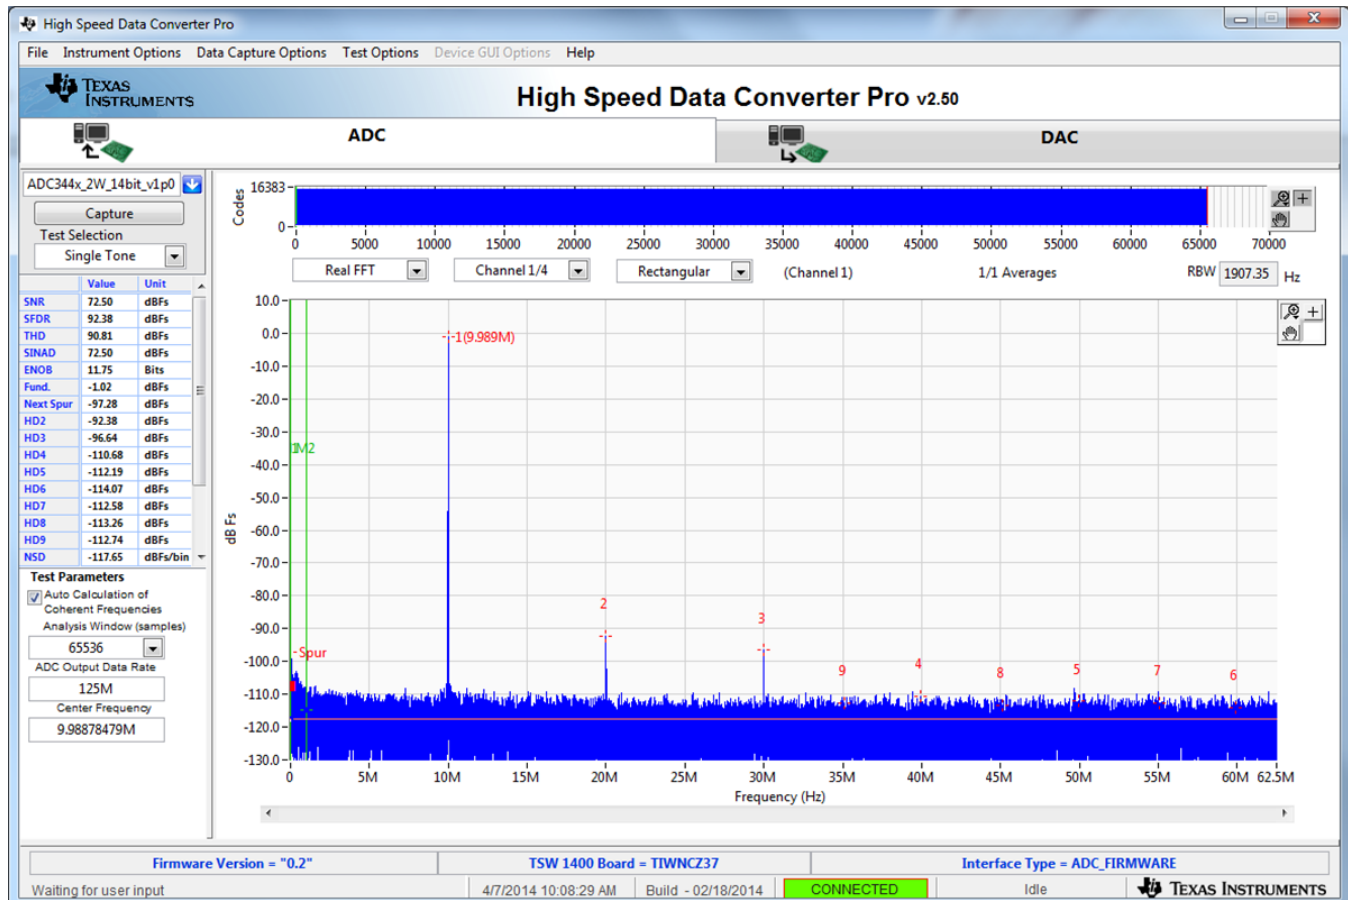

Figure 17. ADC3xxx Operating in 14-Bit Mode at 125 MSPS With a 10-MHz Input Signal
4. Select number of sample points (and resulting number of FFT bins) to be used. The example shown in Figure 17 has 65536 samples.
5. Enter the ADC32/34xx Sampling rate. The example shown in Figure 17 has the sample rate set at 125 MSPS (filtered clock input around 10 dBm).
6. Enter the input frequency desired. If the clock and input frequency signal generators are synchronized, then make sure the checkbox for coherent frequency is checked and set the input frequency signal generator to the input frequency displayed. The example shown in Figure 17 has the input frequency set at 10MHz (9.98878479MHz if coherent). Filtered signal input around 10 dBm – adjust to achieve –1 dBfs on the HSDC Pro FFT.
9. Observe an FFT result similar to that of Figure 17